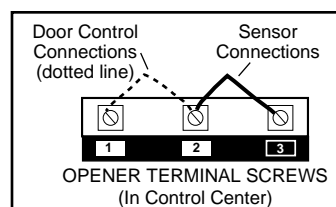

Figure 3
7. Connect the door control wire to the opener terminal screws: white to 2 and white/red to 1. (See Figure 3.)